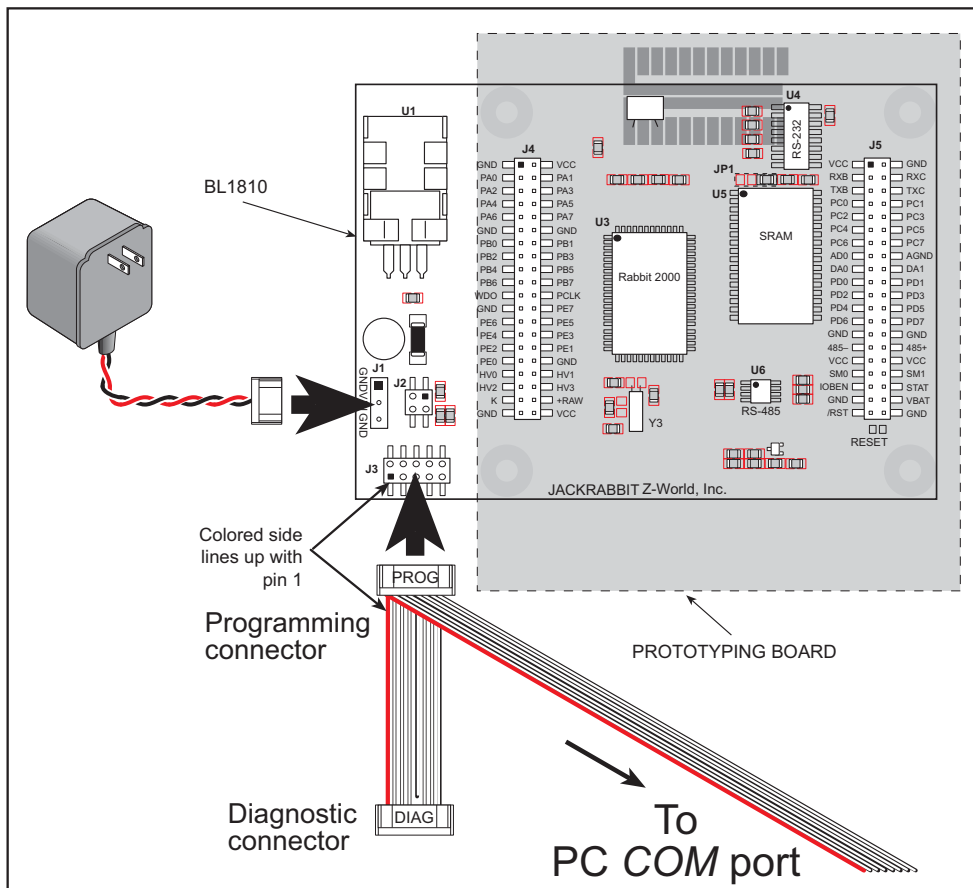

Figure 3. Power and Programming Cable Connections to the BL1810
Connect the 10-pin connector of the programming cable labeled **PROG** to header J3 on the BL1810 as shown in Figure 3. Be sure to orient the marked (usually red) edge of the cable towards pin 1 of the connector. (Do not use the **DIAG** connector, which is used for a normal serial connection.)
Hook up the connector from the wall transformer to header J1 on the BL1810 as shown in Figure 3. The orientation of this connector is not important since the VIN (positive) voltage is the middle pin, and GND is available on both ends of the three-pin header J1.
NOTE: A **RESET** button is provided on the Prototyping Board (see Figure 3) to allow hardware reset without disconnecting power.
- The programming cable must be connected to the BL1810. (The colored wire on the programming cable is closest to pin 1 on header J3 on the BL1810, as shown in Figure 3.) The other end of the programming cable must be connected to the PC serial port. The COM port specified in the Dynamic C **Options** menu must be the same as the one the programming cable is connected to.